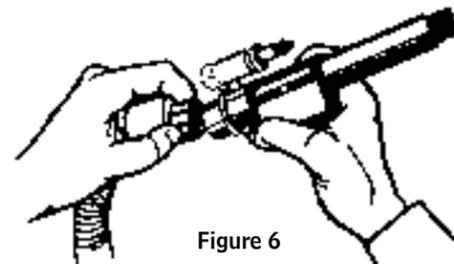

Figure 6
3. Firmly tighten hose connector by hand (see Figure 6).